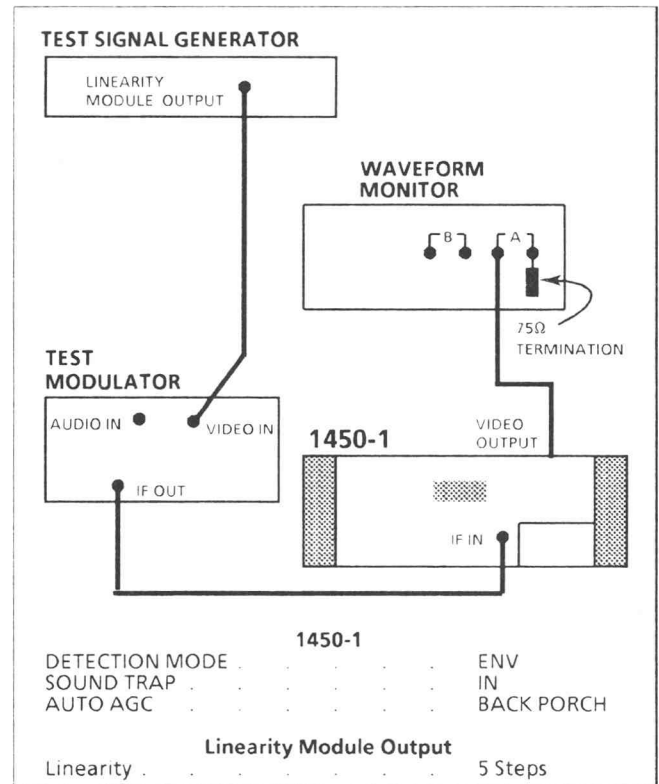

Fig. 4-17. Setup for checking line time non-linearity.
- d. Connect and set the test equipment as shown in Fig. 4-17.